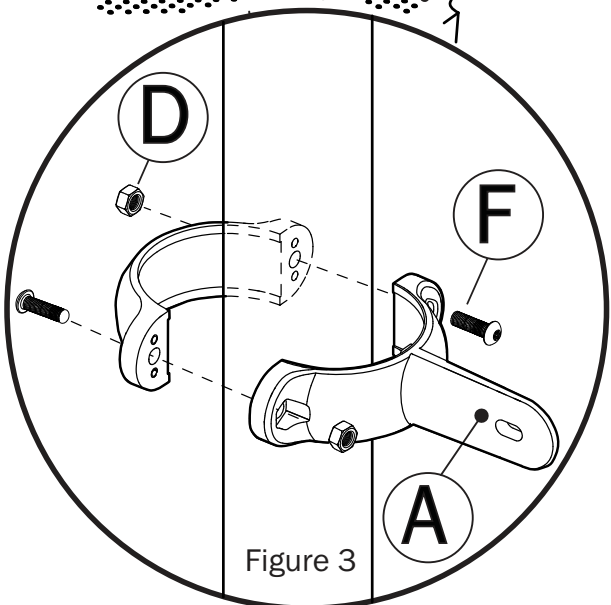

Figure 3
3. Place Extension Tube(C) onto Footer Plate(D) and align holes. Insert Bolt(H) into larger hole of Extension Tube(C), through holes in Footer Plate(D) and secure with Lock Nut(I). See Figure 3.
3. Close Panel Clamp(A) around upright. Insert (2)Bolts(F) into Clamp(A) and tighten with Lock Nuts(D). See Figure 3.
1. Insert Extension Post(B) into Short Climber Support(A).
Extension Posts(B) are used with 12" EWF Surfacing only. Discard Extension Posts if using 2" rubber tiles or poured-in-place surfacing and bolt directly to Footer Plate(C). See Figure 3.